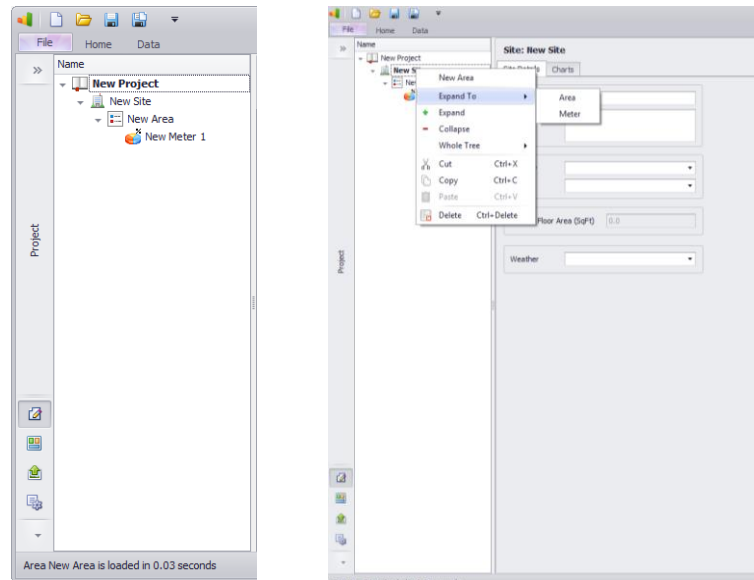

Figure 2.3: Left: Navigation Panel for a simple project with a Site, an Area and a Meter.
- **Tree View:** When this option is selected, the Navigation Panel will show what it is called the Tree structure of the project. Once your project is created you will be able to add items such as Site, Area, or Meter as needed to set up your actual project. Every item you create will be added to the project Tree and will be displayed in this Navigation Panel. The Data Panel will show a Data Form to enter information about the selected item. Figure 2.3 (left) shows the Navigation Panel for a project where a Site, an Area and a Meter have been added.
As you create Items in your project, you can expand the Tree View by right-clicking on any of the Project items in the Tree Structure and selecting “Expand” to show the next level, or “Expand To ...” to select the level of expansion. You can also see the whole project by selecting Whole Tree->Expand All from the drop-down menu (see Figure 2.3 (right)).